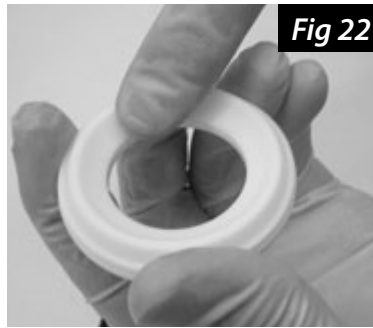

Fig 22
6. Apply a thin coat of vacuum grease around the body seal o-rings and place on the end caps as shown. Apply a thin coat of vacuum grease to the inner radius surface of each Teflon® seat (Fig 22).